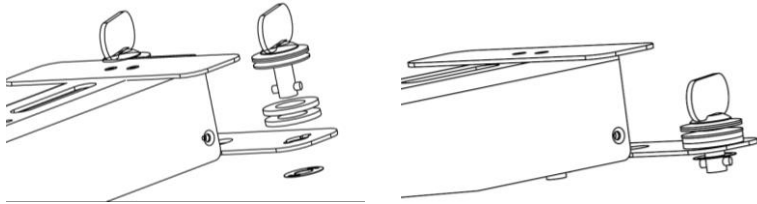

Figure 2: Male Quarter Turn fastener assembly
1. Insert Quarter Turn Male (338-6101-1) through two M14 Flat Washers (414-2128-1), the Hang Force cut out and Quarter Turn Capacitive Washer (338-6104-1) sequentially as shown in the Figure 2. Repeat the process for the other three positions.